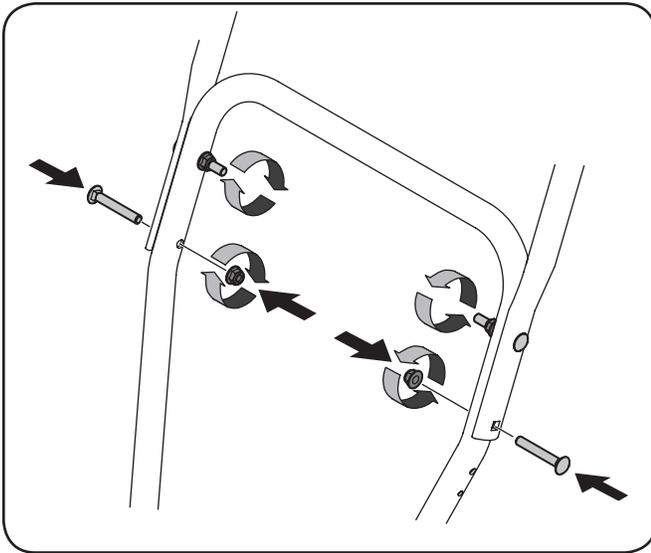

Figure 3-4
- Reattach the two carriage screws and lock nuts removed earlier as shown in Figure 3-4.